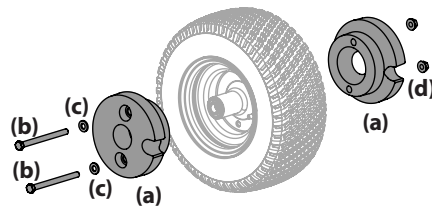

Figure 50
- Remove the two 25-lb weights (a) on each tire by removing the two hex screws (b), flat washers (c) and flange lock nuts (d) that secure them to the rims. See Figure 50.